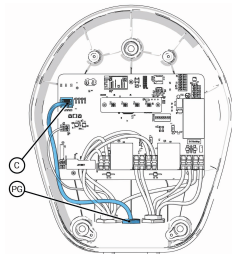

Fig. 4a
12. Connect the newly installed RJ45 terminal to the left RJ45 port on the Dazebox card (C) (Figure 4a, 4b, 4c).